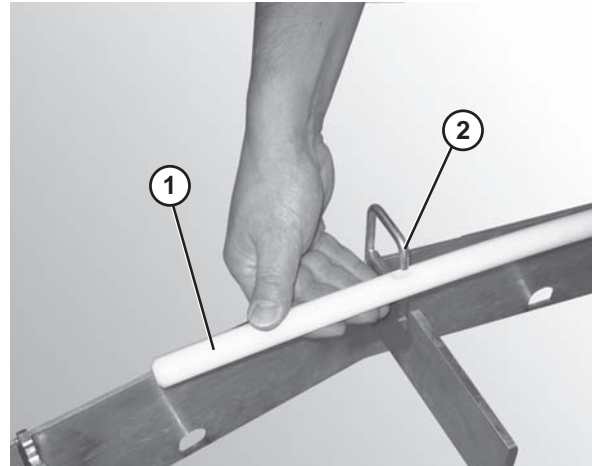

Figure 29
2. Attach the hold down wear strip (Figure 29, item 1) to the frame hooks (Figure 29, item 2) on the outside of the frame.